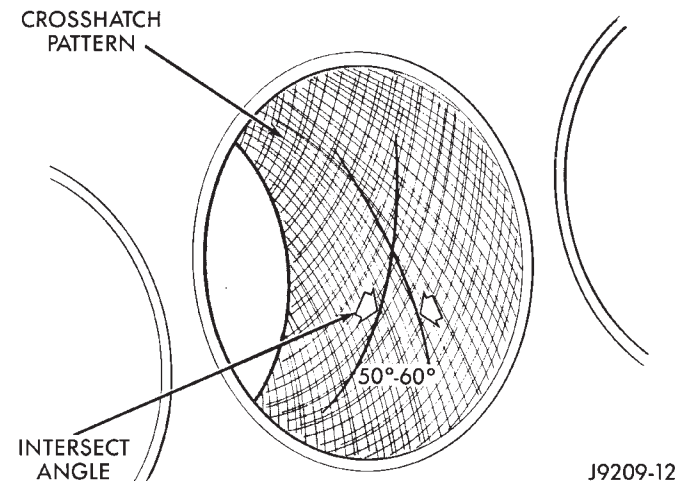

Fig. 8 Cylinder Bore Crosshatch Pattern
- (3) Honing should be done by moving the hone up and down fast enough to get a crosshatch pattern. The hone marks should INTERSECT at 50° to 60° for proper seating of rings (Fig. 8).